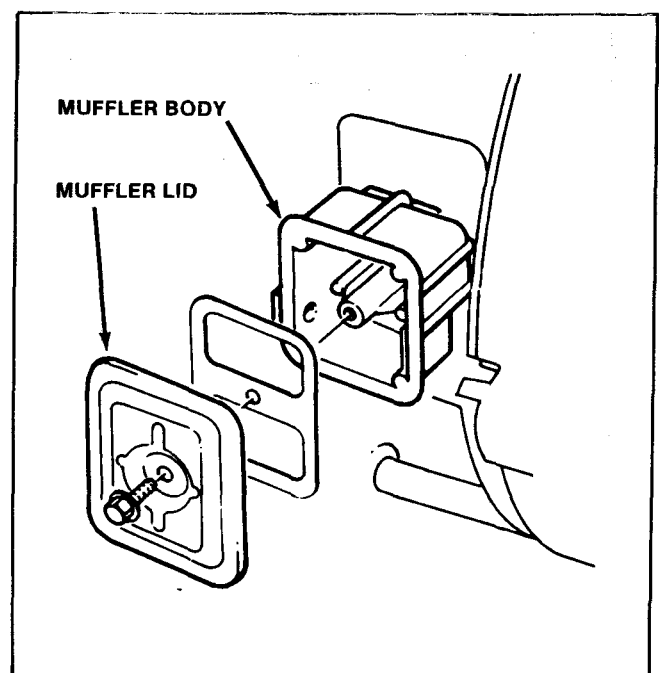

Figure 3
2. Remove the screw securing the muffler lid and gasket to the muffler body. See Fig. 3.